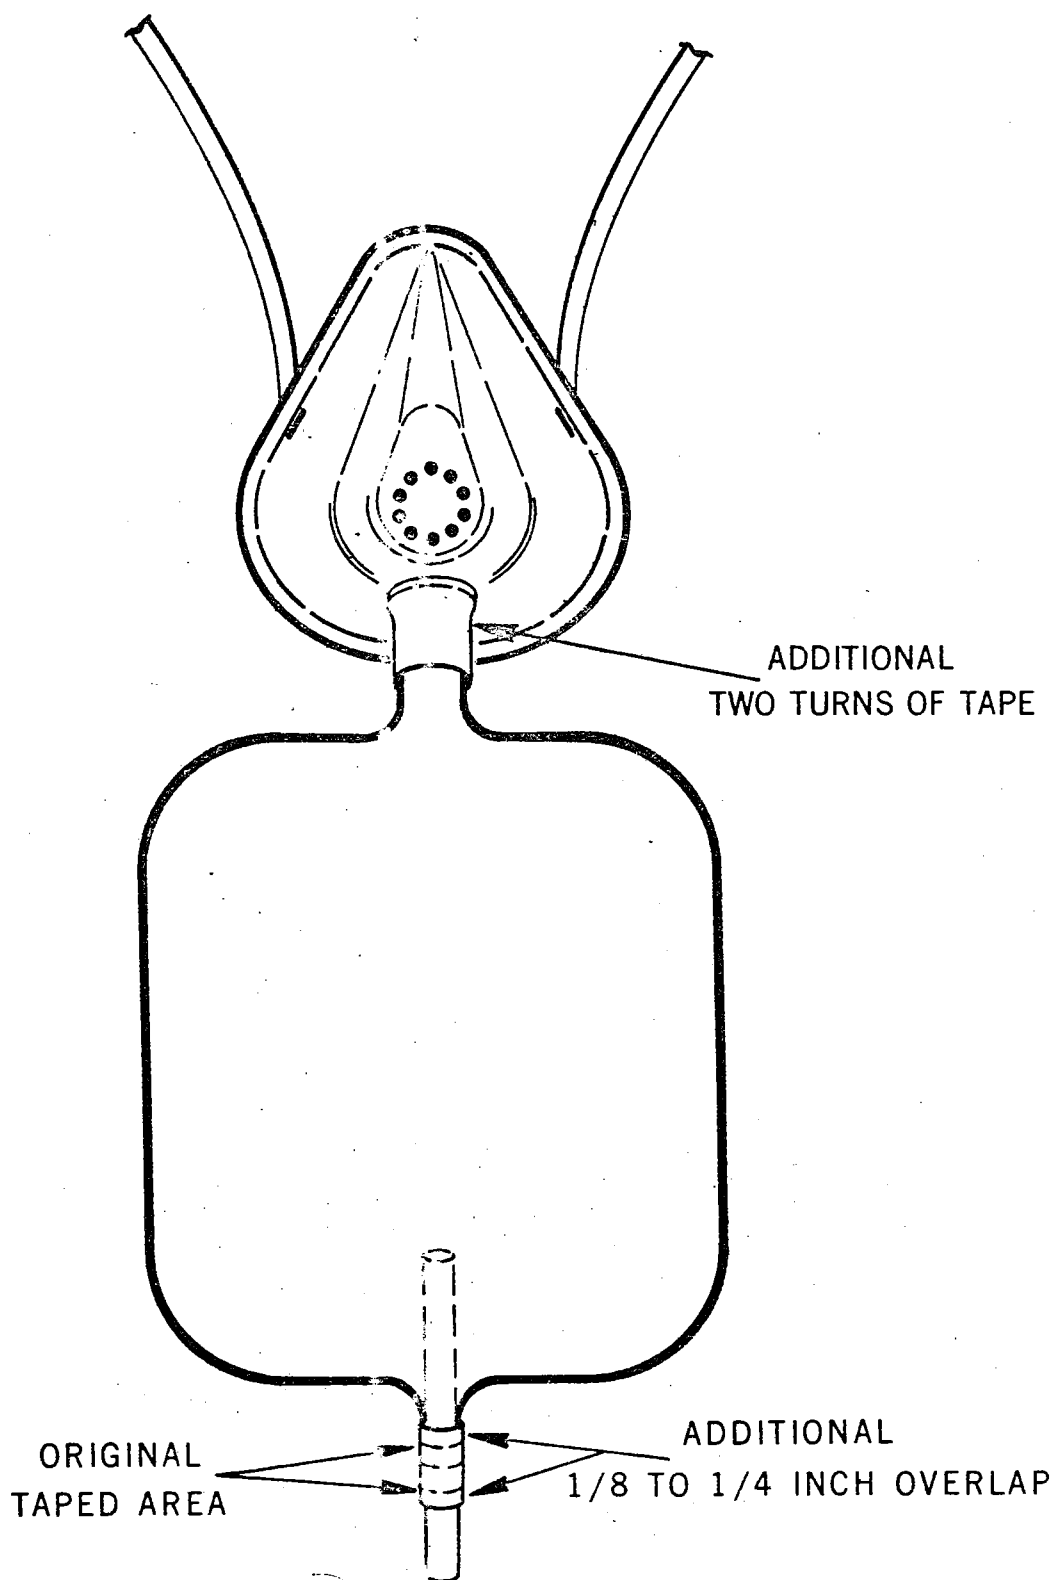

FIGURE 1
- A. Visually inspect condition of existing tape. If torn or wrinkled, remove tape (see figure 1).